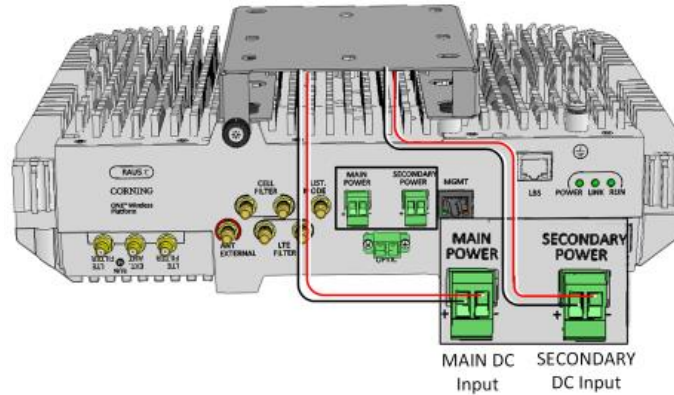

Figure 4-30. RAU5x Main and Secondary DC Input Connections
1. Connect DC wire pair to the RAU5x Secondary Power DC input connector (see Figure 4-30):